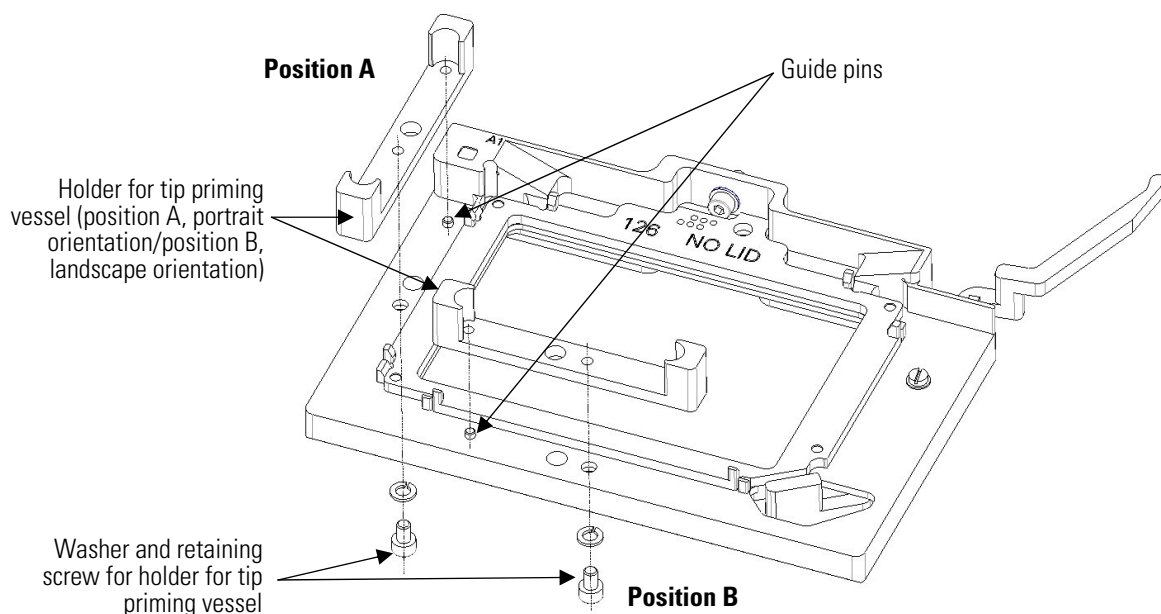

Figure 2–21. Changing the location of the tip priming vessel holder
2. Place the holder for the tip priming vessel in the new position so that the guide pin fits in its hole (Figure 2–21). The guide pin controls that the holder is placed correctly. Then fasten the holder retaining screw fitted with a washer.